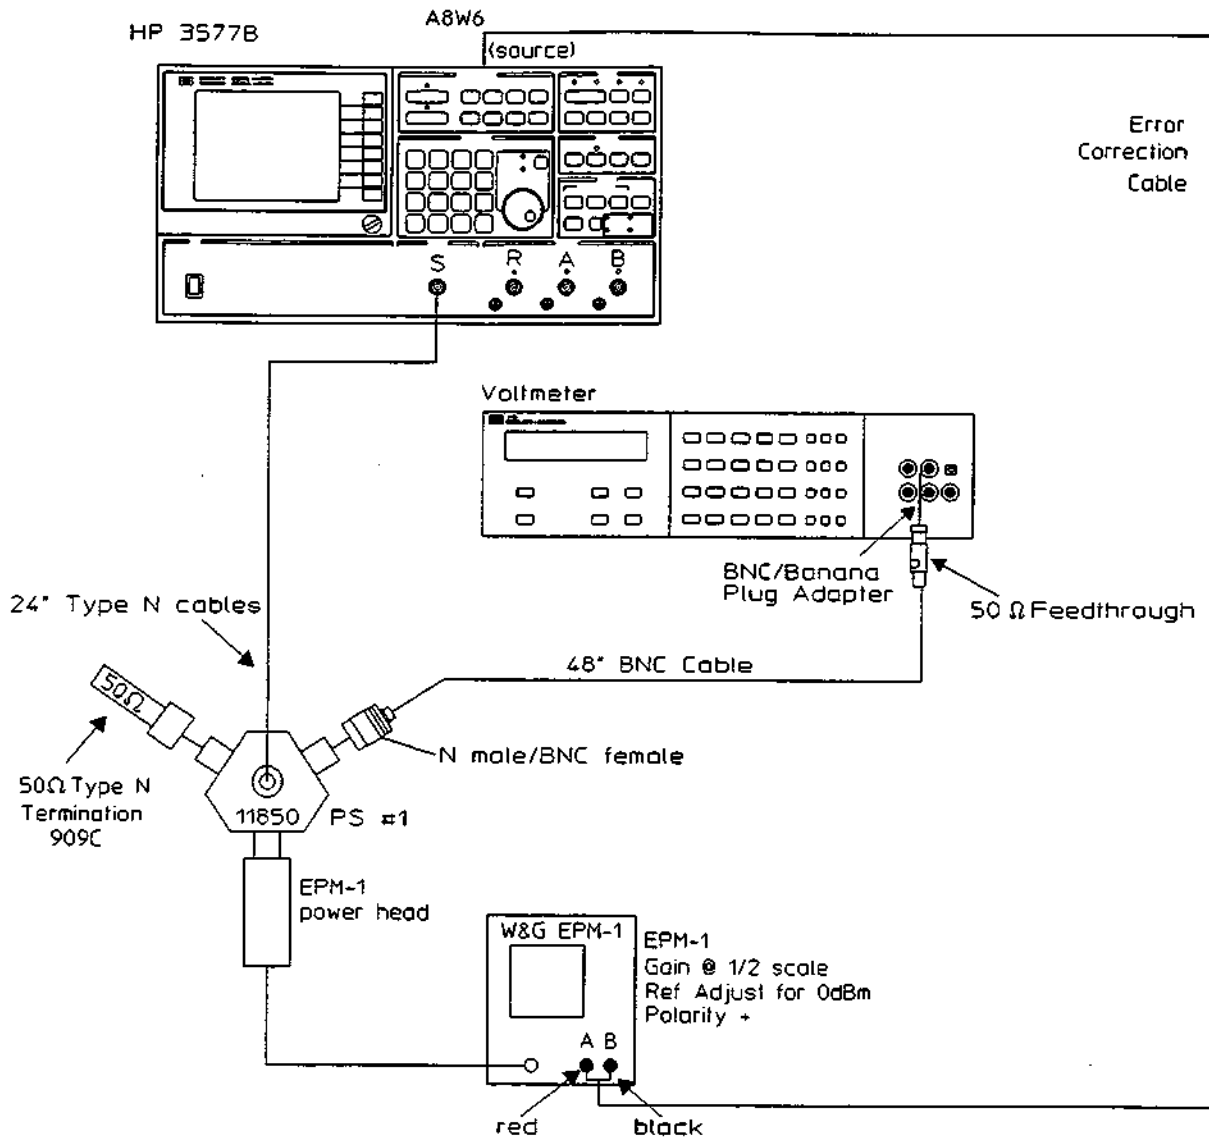

Figure 3-18. EPM-1 Flatness Test Setup
- b. Set up the equipment as shown in figure 3-18.